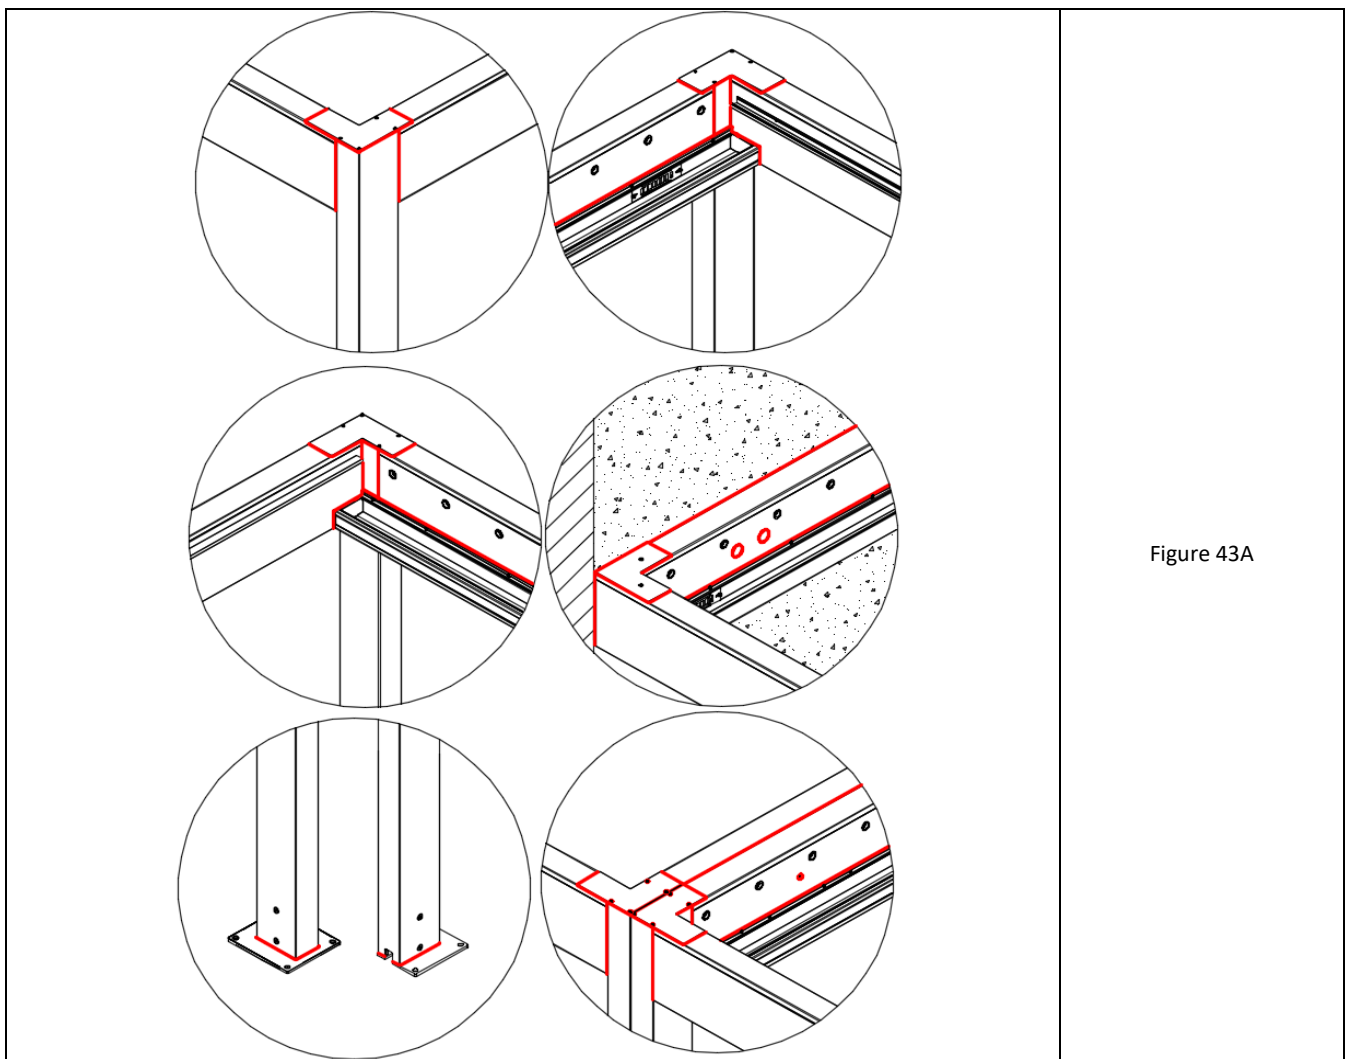

Figure 43A
3. Figure 43A shows in red the contact lines absolutely required for sealing. These include the beam-to-post joints, outlines of angle end caps on revisions, the top edge of the contact of each gutter with the beam, the outline of the contact of the gutter end cap with the beams or adjacent gutter, outlines of through-anchor end caps, revision joint with building wall, the upper contacts of the pergola modules, the contact of the post with the footing sheet, and others.